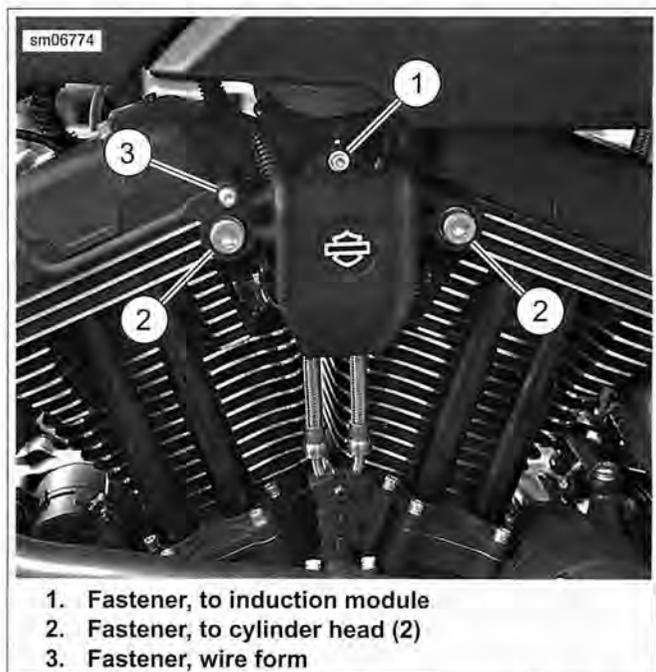

Figure 3-18. Induction Module Cover and Wire Form
7. See Figure 3-18. Remove fasteners (1, 2, 3) and remove induction module cover. Cut tie strap securing TP sensor harness to side plate.